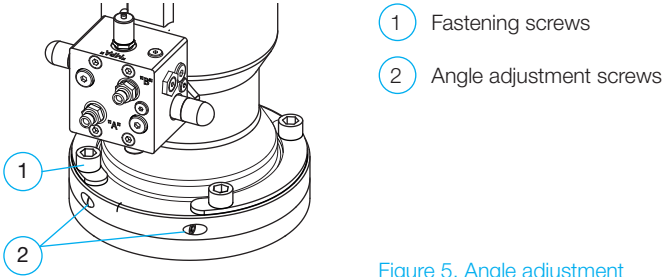

Figure 5. Angle adjustment
Part numbers refer to the figure 5
7. Open the fastening screws (1). Adjust the correct OPEN position by loosening the other and tightening the other angle adjustment screw (2). If left screw (figure 5) is tightened and right one is loosened the valve will be closing more. If right screw is tightened and left one is loosened the valve will be opening more. Tighten the fastening screws (1)
7. Open the fastening screws (1). Adjust the correct CLOSE position by loosening the other and tightening the other angle adjustment screw (2). If left screw (figure 5) is tightened and right one is loosened the valve will be closing more. If right screw is tightened and left one is loosened the valve will be opening more. Tighten the fastening screws (1)